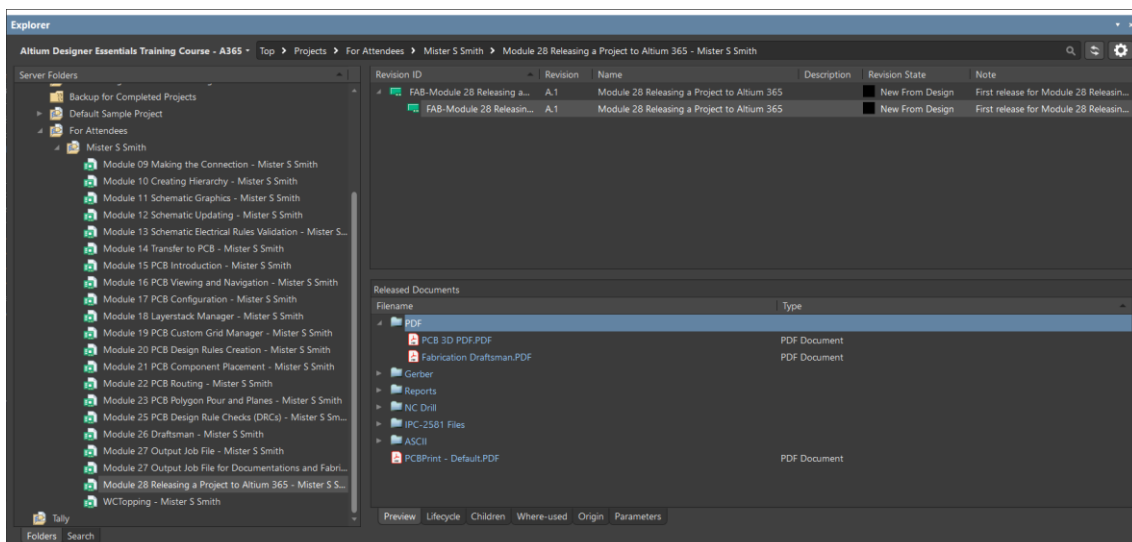

Figure 8. Explorer panel - first release of Fabrication Data
30. The links from *Fabrication*, *Assembly for ...*, and *Project Page* allow you to open the *Explorer* Panel and to jump to the specific set of files created during the release process. Select the Link for Fabrication to see the outputs generated, as shown in Figure 8.